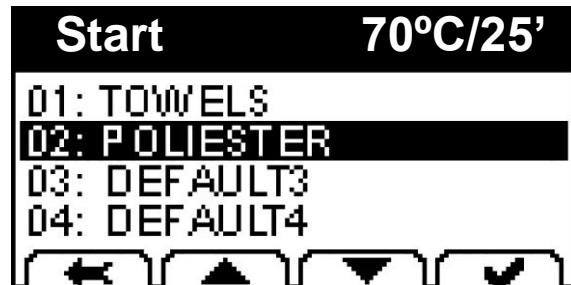

Fig. 4.1
- Select the desired program using the and keys. Then press to start the program (Fig. 4.1).